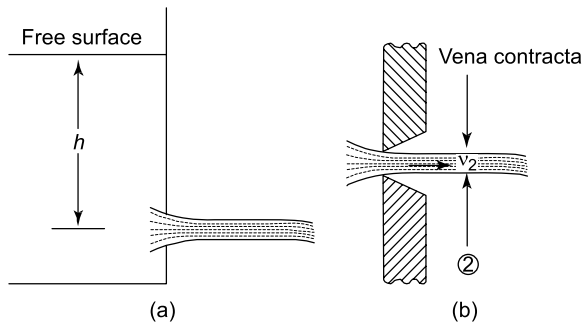

Figure 24.13
Consider the flow of a liquid through a small orifice, as shown in Figures 24.13(a) and (b), where it can be seen that the vena contracta (VC) lies just to the right of the orifice. The cross-sectional area of the fluid is the smallest here and its decrease in area from the orifice is measured by the coefficient of contraction (C_c).
3. If in Figure 24.13, $h = 6 \text{ m}$, $C_c = 0.8$, $C_v = 0.7$, determine the values of C_d and actual v_2 . [$C_d = 0.56$, $v_2 = 6.08 \text{ m/s}$]
4. If in Figure 24.13, $h = 10 \text{ m}$, $C_c = 0.75$, $C_v = 0.65$, and the cross-sectional area is $1.5 \times 10^{-3} \text{ m}^2$, determine the discharge and the actual velocity v_2 . [$C_d = 0.488$, 6.84 m/s , 7.90 kg/s]